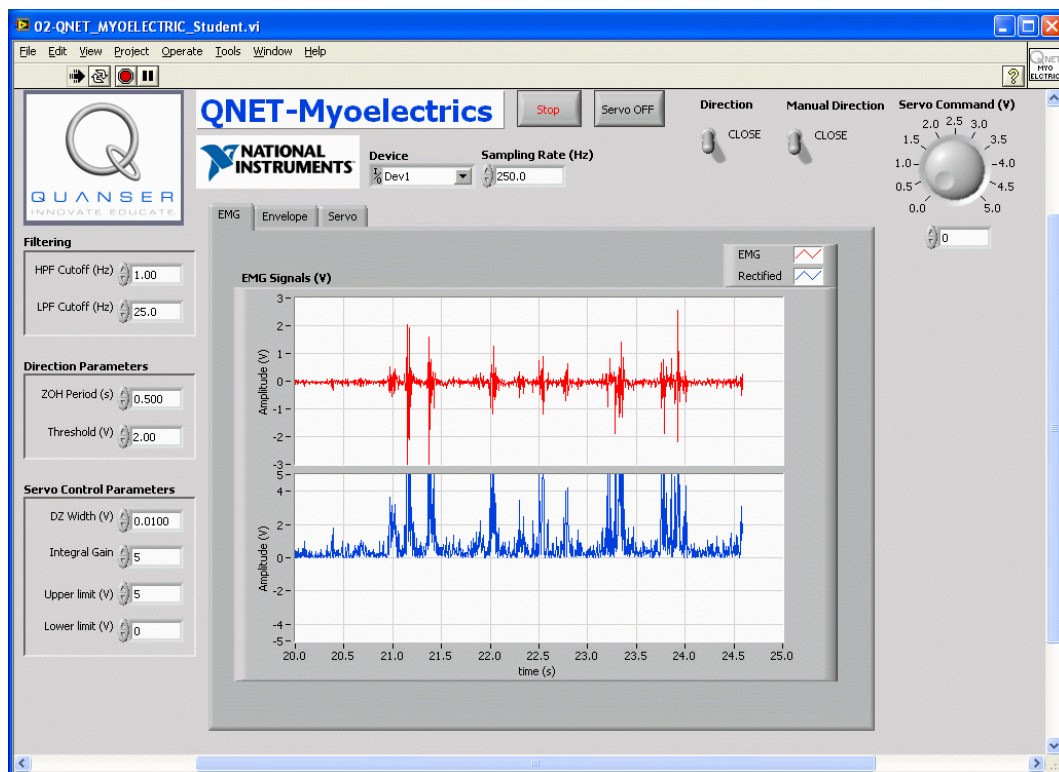
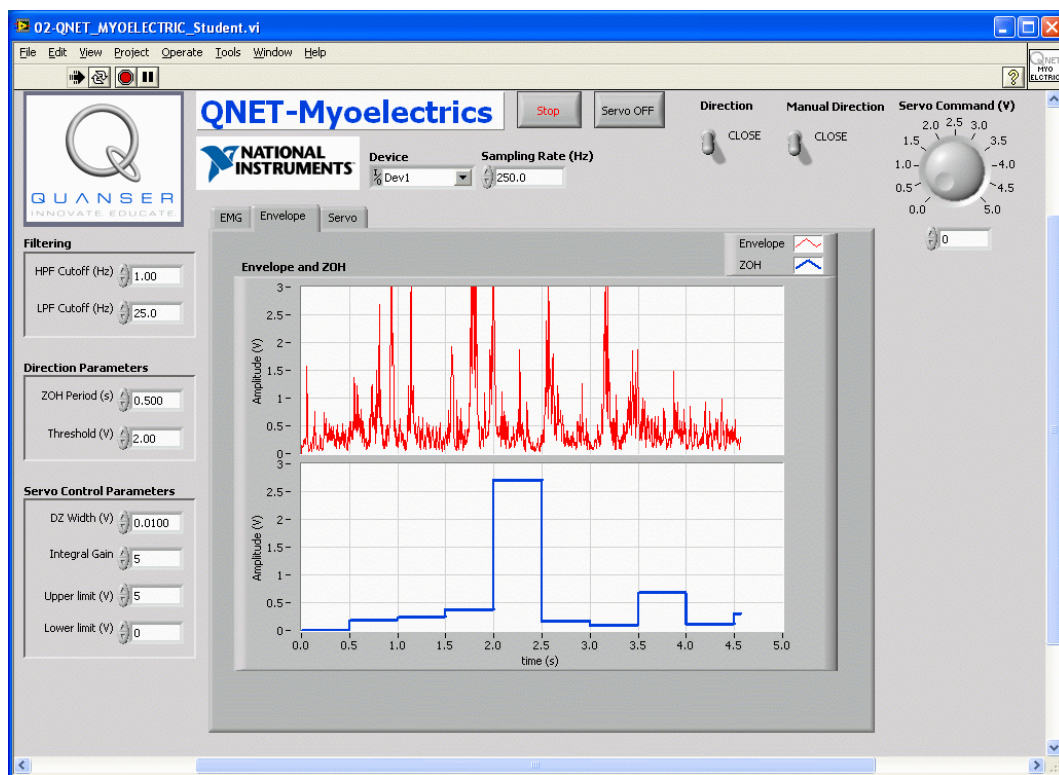

Figure 1.3: QNET Myoelectric VI: EMG Signal tab
Figure 1.4: QNET Myoelectric VI: Envelope and ZOH tab
The virtual instrument used to view EMG sensor measurements, and the output of the linear envelope is shown in Figure 1.3 and Figure 1.4.
4. Select the EMG tab, as shown in Figure 1.3. The top plot in the EMG Signal (V) scope is the measured EMG signal (after on-board signal processing) and the bottom plot is the high-pass filtered and rectified signal.
6. Select the Envelope tab, as shown in Figure 1.4, the top plot is the linear envelope of the EMG signal and the bottom plot is the zero-order hold of the envelope.